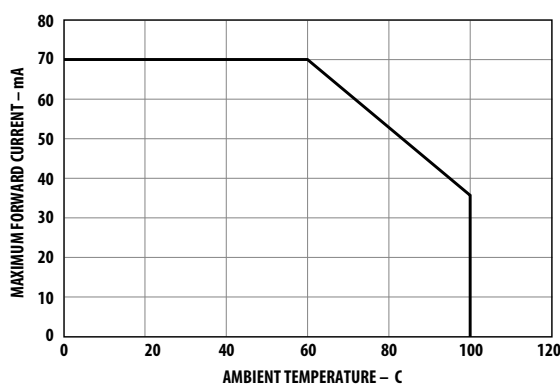

Figure 4. Maximum forward current vs. ambient temperature.
1. Derate linearly as shown in figure 4.